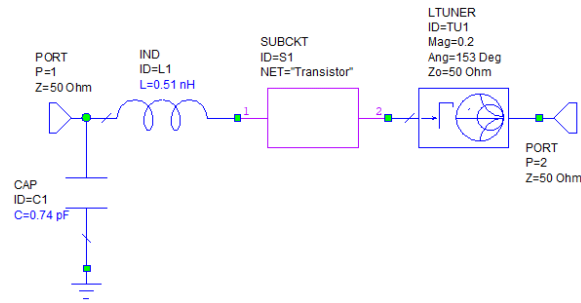

Fig. 9 Transistor with ideal output matching and designed input matching.
- The position of $S_{11} = \Gamma_1$ in the Smith Chart enables the employment of the same matching circuit as in the previous case (generally, it can be different). The resulting parameters are: $L2 = 0.51$ nH, $C2 = 0.74$ pF, as shown in Fig. 9.